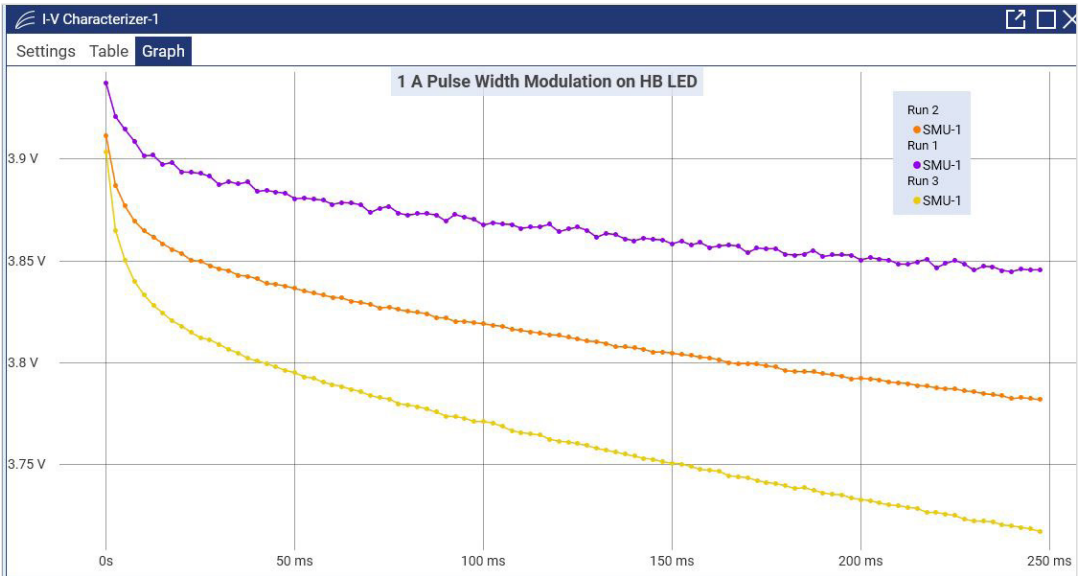

Figure 18: Pulse width modulated output data presented graphically.
18. Your final plotted output should look similar to the Figure 18.